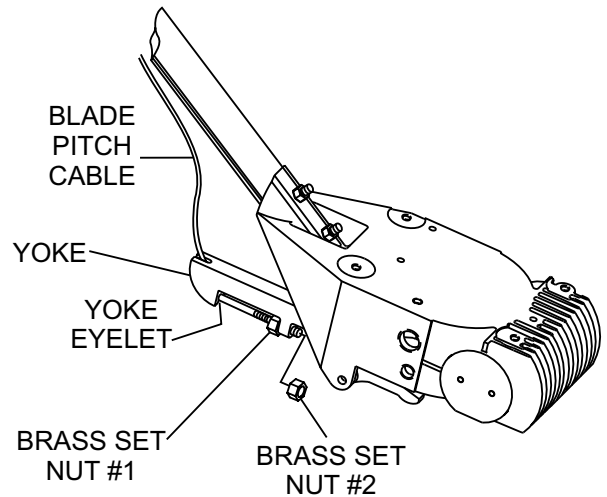

Figure 8. Cable Yoke Attachment
5. Insert the cable end through the yoke eyelet (Figure 8). Tighten brass set nut #1 by hand to remove all the slack from the cable.